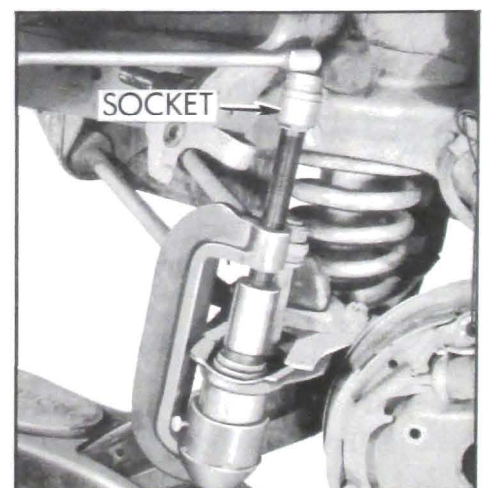

Figure 7-14—Removing Lower Ball Joint
7. Tighten Detail J-9519-8 with a socket and handle as shown in Figure 7-14 until ball joint is forced out of the lower control arm. **CAUTION: Ball joint may pop out suddenly.**